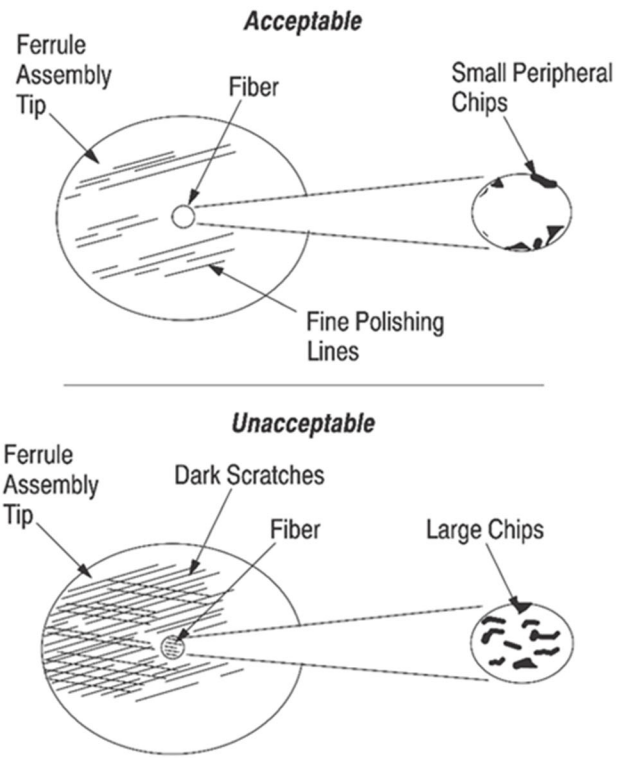

Figure 10
1. Using the microscope, inspect the ferrule assembly and fiber according to the following criteria (refer to Figure 10):